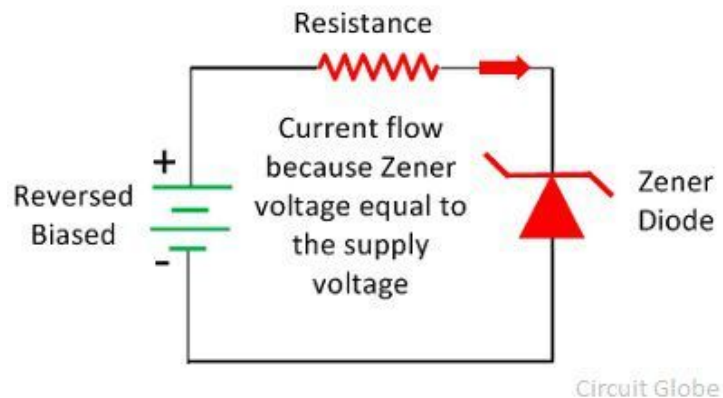

Figure 3. Working of zener diode
- Figure 3. Working of zener diode